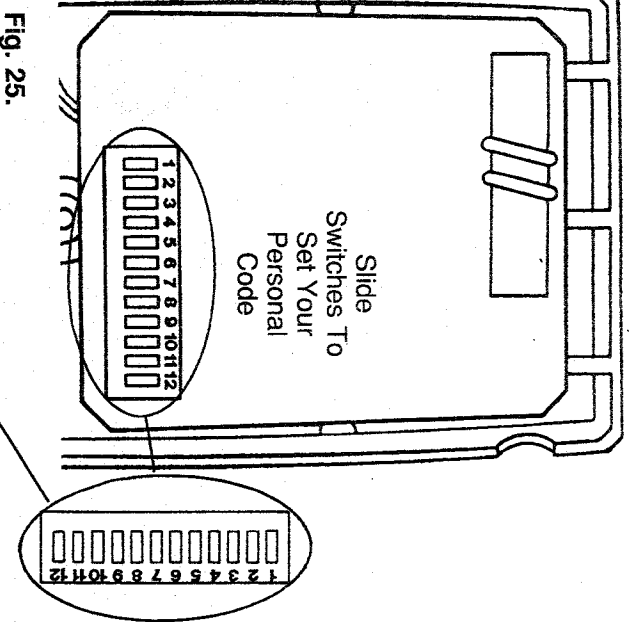

Fig. 25.
## **2 SLIDE THREE (3) OR MORE CODE SWITCHES TO SET YOUR PERSONAL CODE.** (Fig. 25)
## **3 HOLD REMOTE CONTROL NEXT TO OPERATOR CODE SWITCHES.** (Fig. 25)